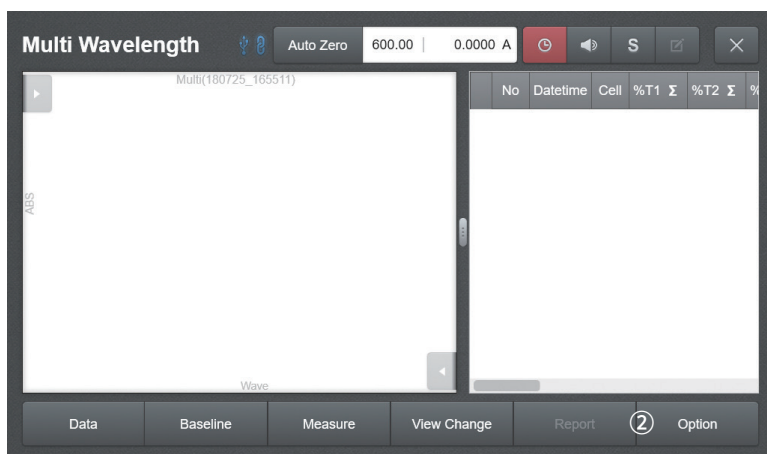

Fig. 3.15
2. [Fig. 3.15] Move to the ② **Option** and specify the measurement settings.